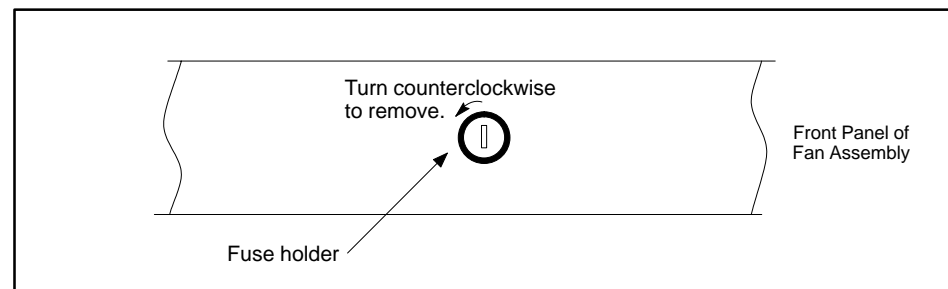

Figure 4-3 Replacing Fuse on Optional Fan Assembly
2. Insert a flat-bladed screwdriver in the fuse-holder slot and rotate counterclockwise (about 1/8 turn) until it pops out (see Figure 4-3).